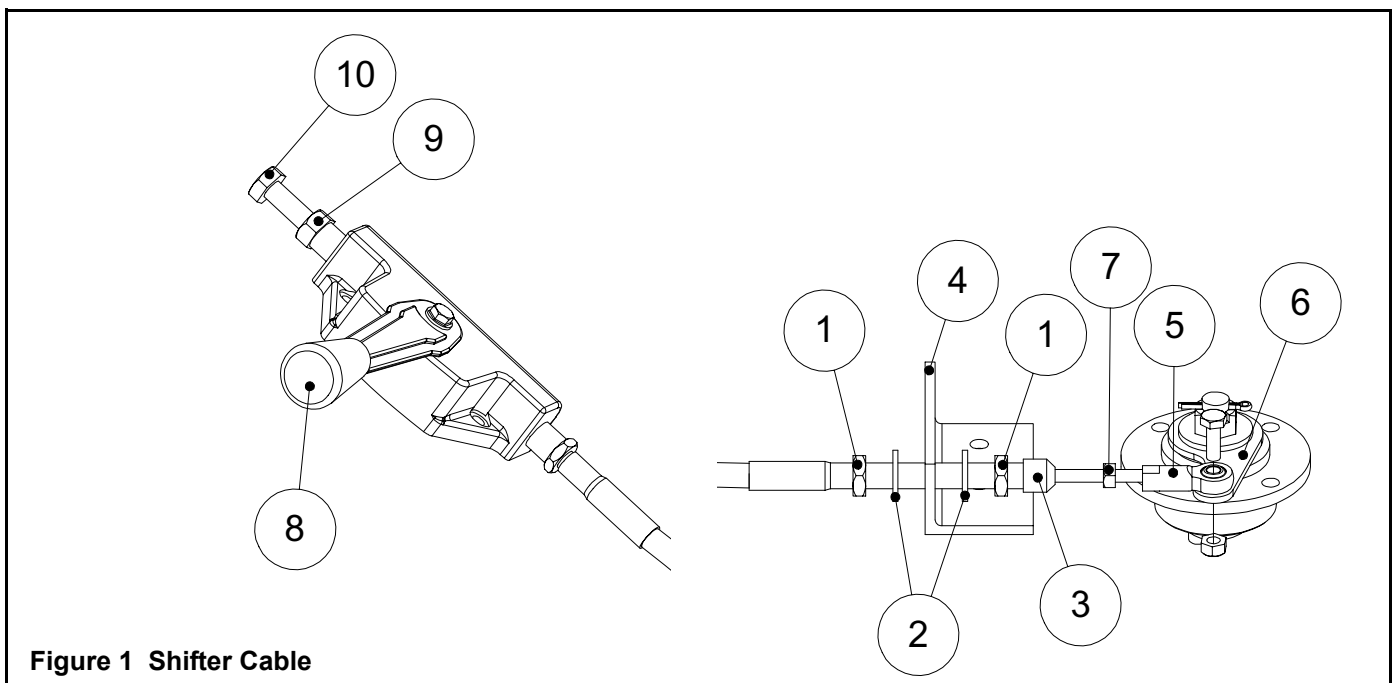

Figure 1 Shifter Cable
Refer to Figure 1 Shifter Cable, page 7.
2. Remove the four (4) 1/4" hex head capscrews securing the beltguard to the side plate on the engine deck and remove the beltguard and belt.
4. Remove the four (4) 1/2" hex head capscrews securing the engine deck to the base plate.
5. Disconnect the shifter lever from the handle by removing the two (2) 1/4" socket head capscrews.
7. Disconnect the shifter cable from the actuator assembly and exciter housing by removing the 1/4" bolt and jam nut securing the ball joint to the actuator lever and removing the two (2) hex head capscrews securing the angle bracket to the exciter assembly. (Refer to Figure 1 Shifter Cable, page 7..)
9. Remove the six (6) hex nuts and washers securing the exciter assembly to the base plate and remove the exciter.